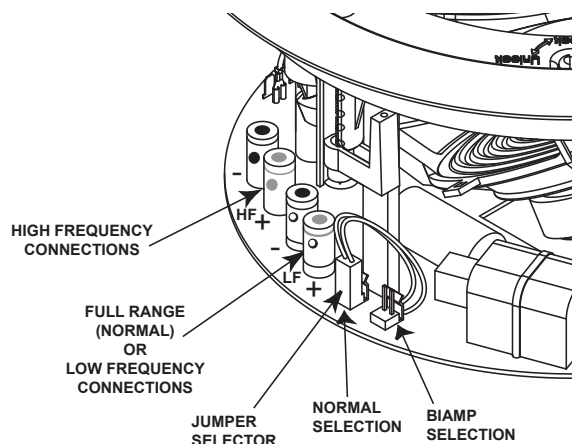

Figure 12
7. Connect the prepared hookup cables to the Full Range Terminals being careful to observe the correct polarities. Refer to figure 12.